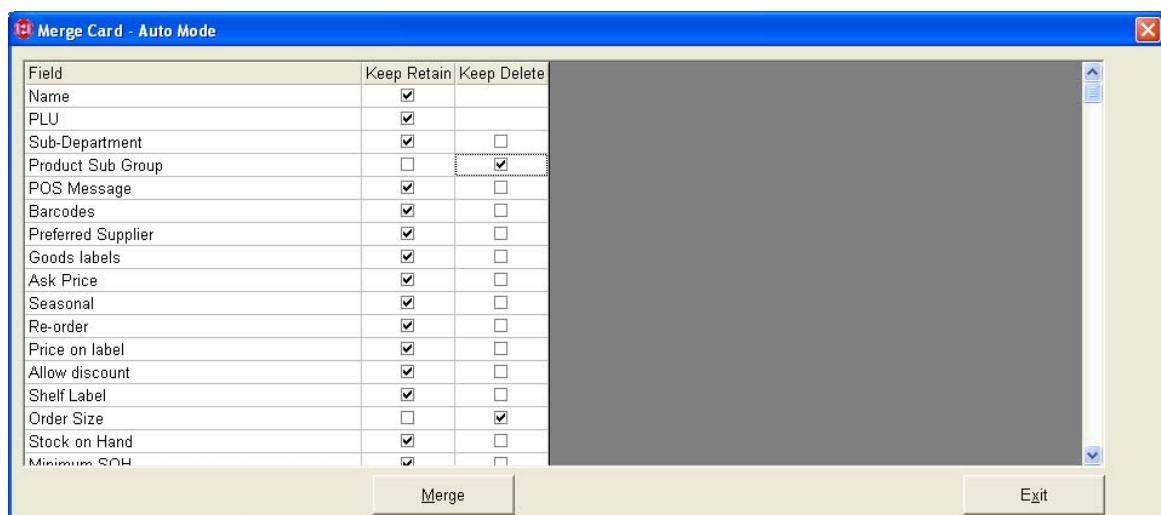

Figure 166
2. To continue select the 'Proceed' button the following window will appear (see Figure 166).